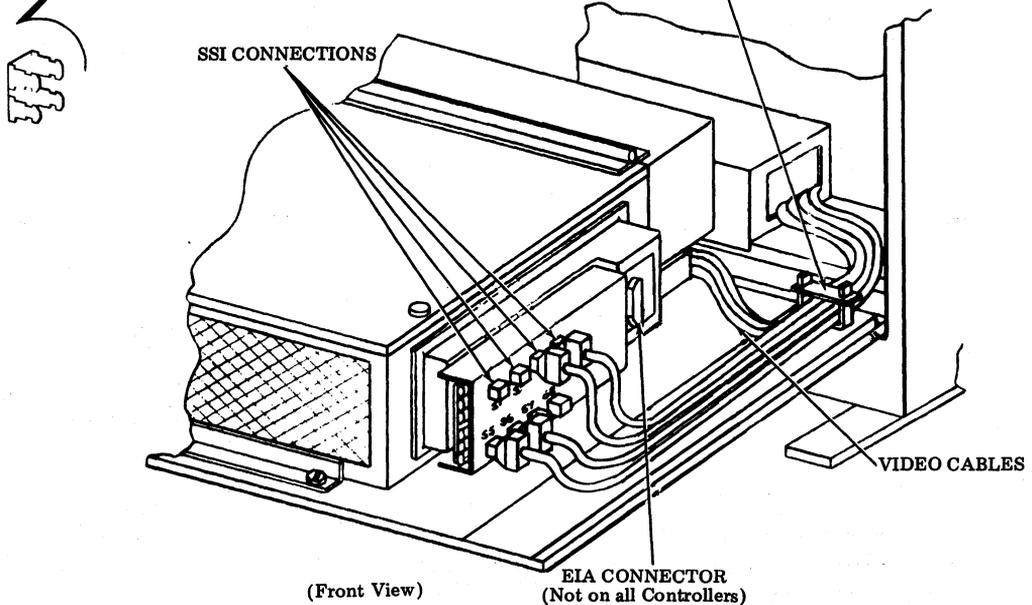

Fig. 7—Typical Controller Interconnection
4.03 Video and SSI connections at the controller (Fig 7) are as follows: